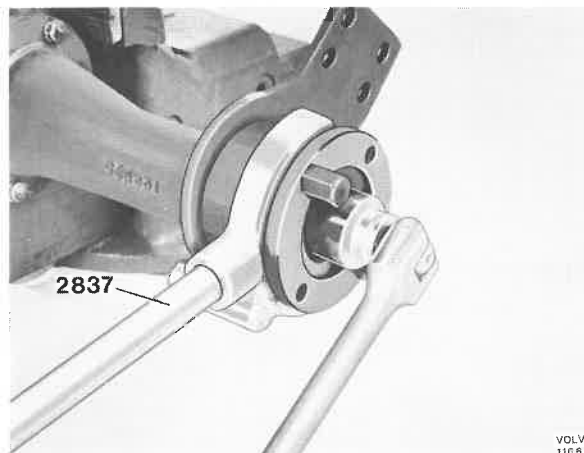

Fig. 46-135. Removing the nut
2. Fit it in a vice. Fit counterhold 2837 on the flange, see Fig. 46-135.